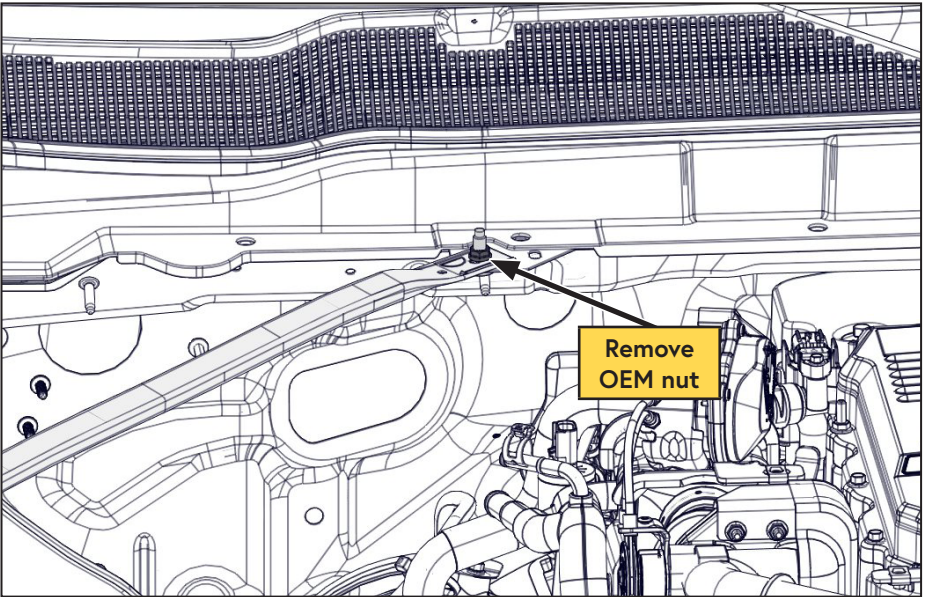

Figure 50 — Install regulator
- ☐ Remove the OEM nut from the passenger side brace and set it aside (Figure 50).